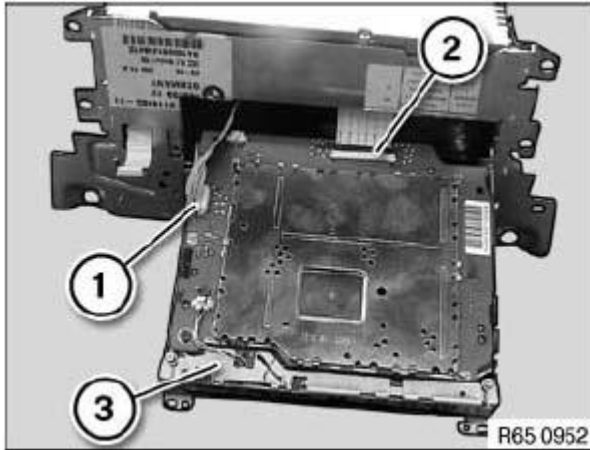

Fig. 103: Identifying Plug Connection And DVD Drive
NOTE: There are two versions of the plug connection (2) shown in Fig. 103: